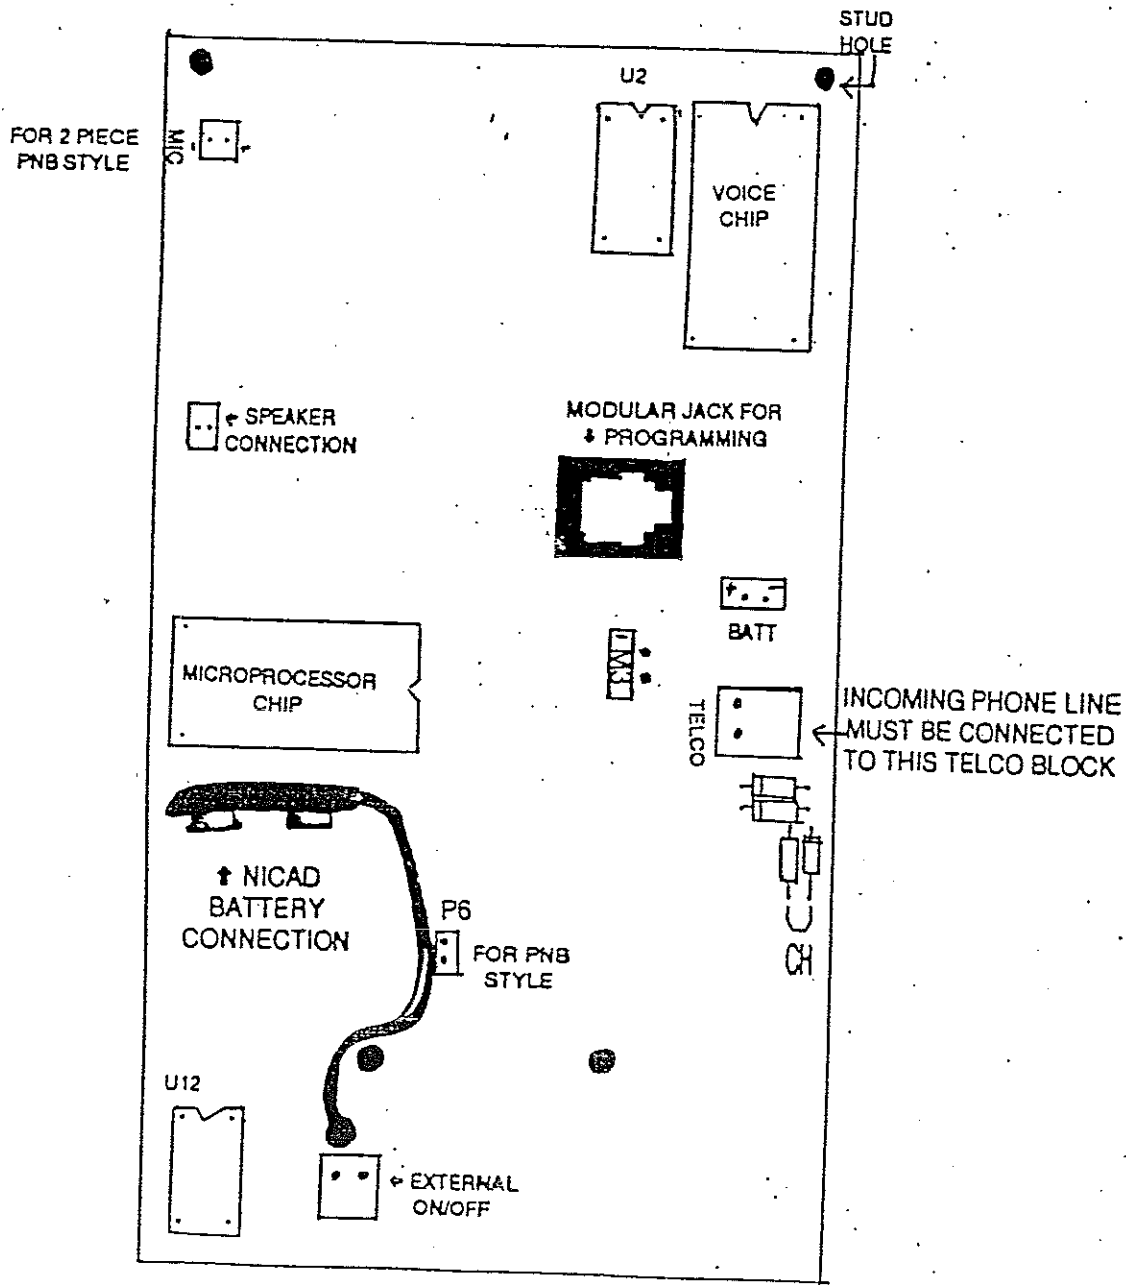

FIGURE 2
- Step 7. Remove the "TELCO" Block and attach the incoming phone line to the Telco Block's two screw terminals. See Figure 2. NEVER ATTACH THE INCOMING DIALTONE TO THE MODULAR CONNECTOR.**
- Step 9. Plug the "TELCO" Block onto the electronics board. See Figure 2.**
1. Connect the 9 volt battery to the battery connector. See Figure 2.
2. Plug a tone phone into the modular jack. See Figure 2.
3. Unplug the speaker. See Figure 2.
4. Using a small screwdriver briefly short out the two pins at "M3". See Figure 2.
1. Connect elevator phone by wiring phone line to "TELCO" block. See Figure 2.
2. Connect the 9 volt battery to the battery connector. See Figure 2.
3. Plug the tone phone into the modular jack. See Figure 2.
4. Unplug the speaker. See Figure 2.
14. Reconnect the elevator phone speaker. See Figure 2.
15. Unplug 9 volt battery. See Figure 2.